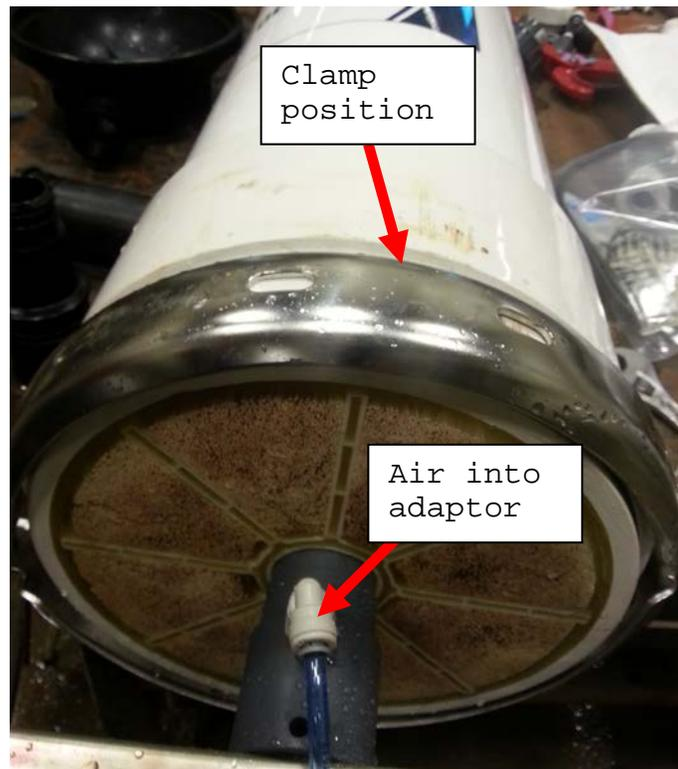

Figure 2: Clamp and air inlet locations.
4. Attach the half shell clamps without the end caps. See Figure 2.